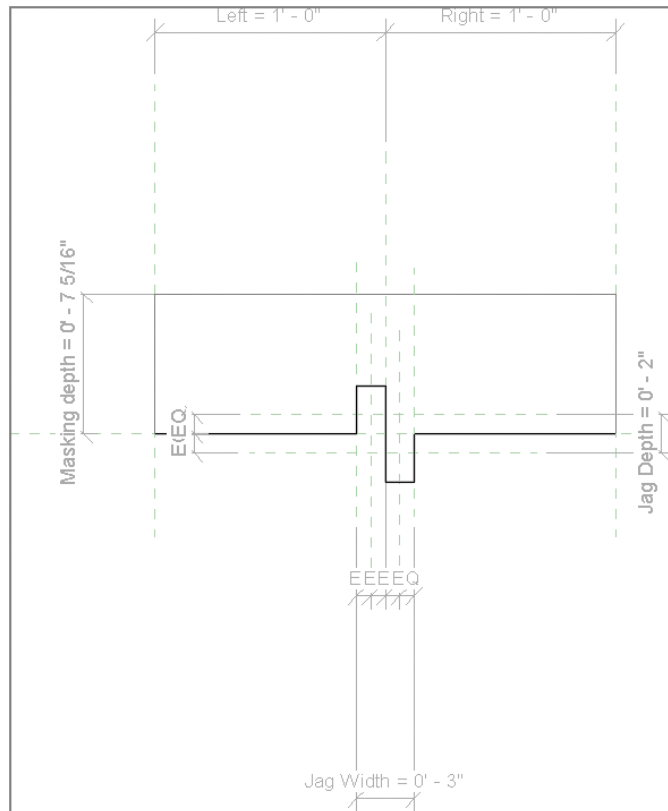

FIGURE 6.23 The masking region with all constraints displayed
5. In the View Control Bar, change the scale of the view to $1\frac{1}{2}" = 1'-0"$ (1:10) so the dimensions are more legible. Use Zoom To Fit to see the extents of the constraints (Figure 6.23).